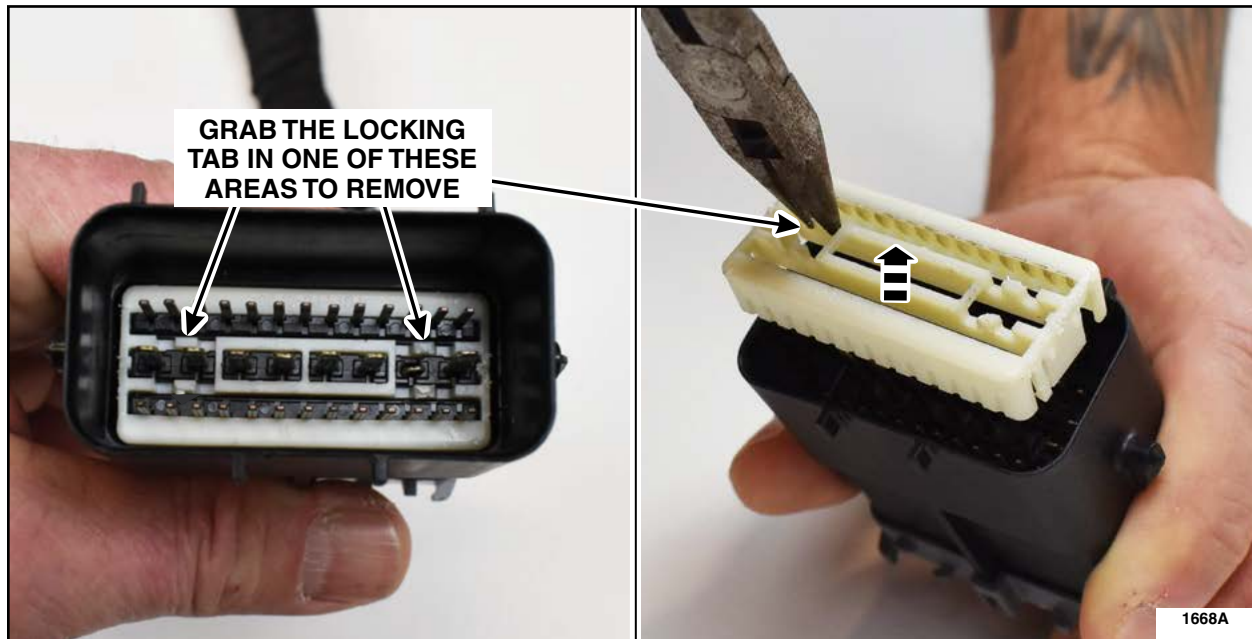

FIGURE 21
2. Using a small pair of needle nose pliers, or an equivalent tool, remove the white pin terminal locking tab from the original/damaged connector hard shell. See Figure 21.